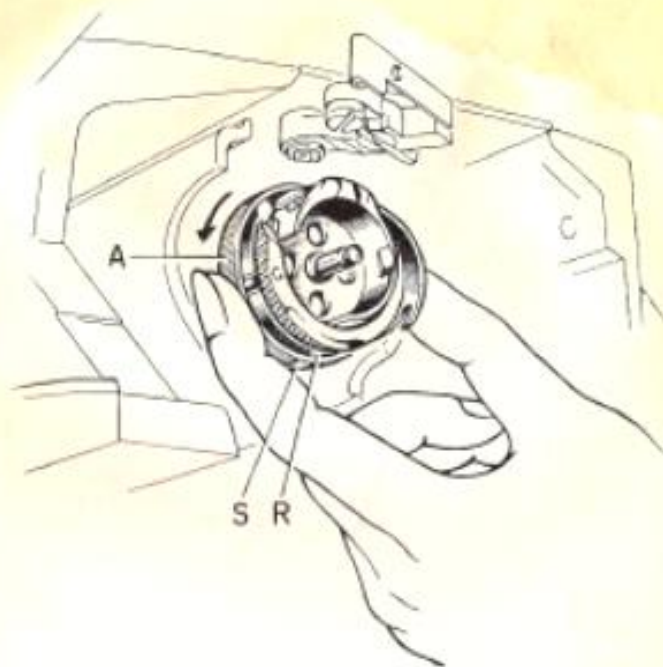

Fig. 16
- d) Keeping the balance wheel still, rotate the rear ring « A » (Fig. 16) as indicated by the arrow;
- d) Keeping the balance wheel still, rotate the ring « A » in the opposite direction of the arrow (Fig. 16) until it comes to a stop.